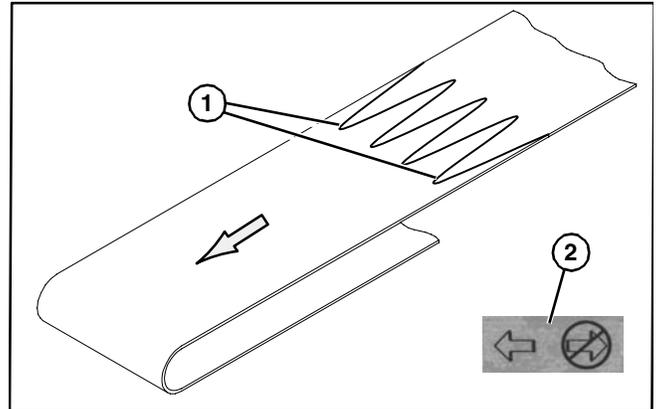

Figure 28
1. Orient belt so splice leading fingers (Figure 28, item 1) point in the direction of belt travel as identified by the conveyor directional label (Figure 28, item 2).
- Orient belt so splice leading fingers (**Figure 28, item 1**) point in the direction of belt travel as identified by the conveyor directional label (**Figure 28, item 2**).